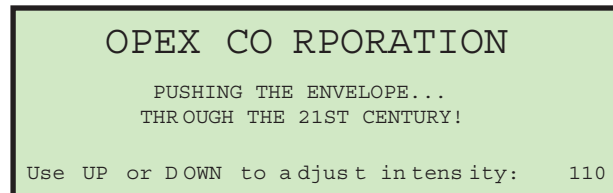

Figure 18: Adjust Intensity screen
2. Press the Left arrow button. The Adjust Intensity screen appears (Figure 18).